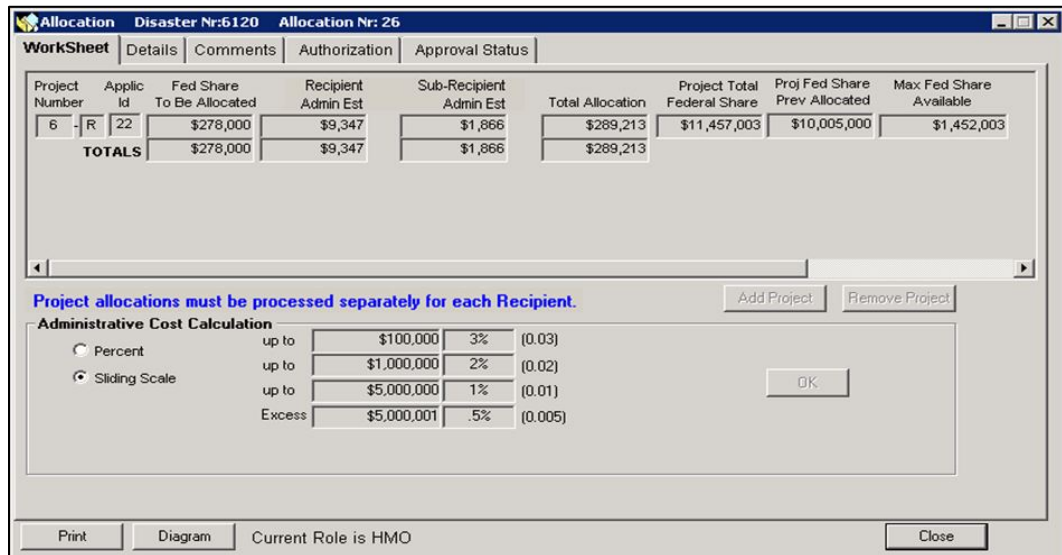

Figure 10-23B: Mitigation > Funding > Allocations > Worksheet Tab
6. Five tabs with Allocation information are displayed. The **Worksheet** tab is displayed by default (Figure 10-23B).